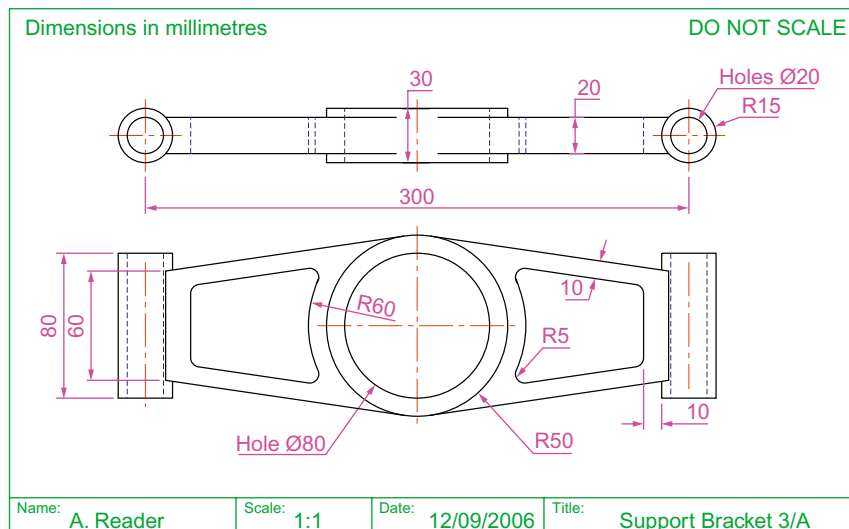

Fig. 13.10 Working drawing for the second example
3. In the **Top** viewport construct an outline of the web of the Support Bracket shown in Fig. 13.10. With the **Extrude** tool, extrude the parts of the web to a height of **20**.